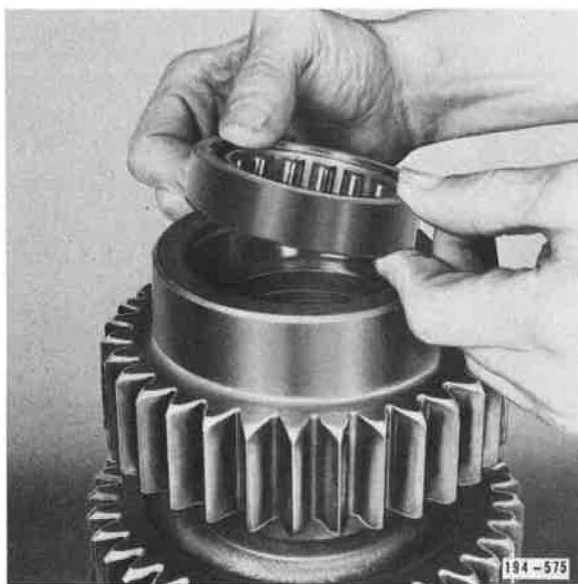

Figure 281. Installing Bearing
7. Install rear countershaft front bearing. See Figure 281.